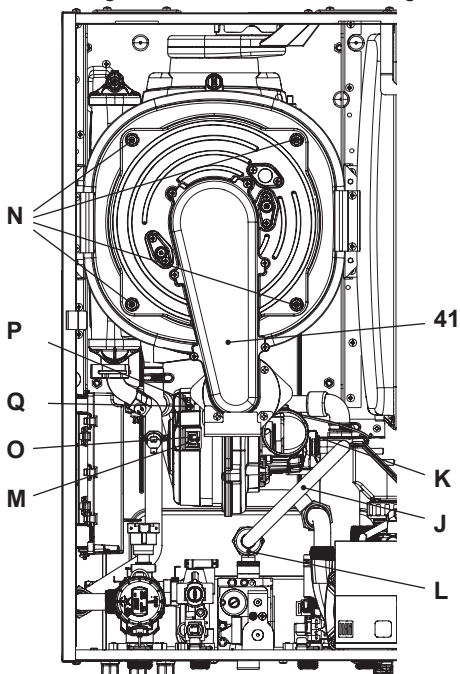

Fig. 9.9
Removing the fan burner unit 41 in Fig. 9.9.
- Insert a flat screwdriver in the connector recess M and lever towards the bottom, disconnect the connector at the same time O by pulling towards the front O (Fig. 9.9).
- Disconnect the fan connector P by pressing the plastic hook Q positioned at the bottom part of the connector (Fig. 9.9).
- Unscrew screws N and remove the fan burner unit 41 (Fig. 9.9)